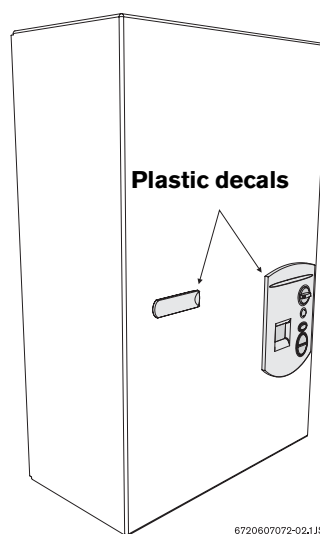

Fig. 3 Remove front cover
- Plastic decal shields for covering front cover screws and control panel, installer should affix these decals to the front of the unit after installation is complete. See Fig. 3
- Loosen the two Philips head screws located on front panel (beneath plastic decal shields if they are already attached, see Fig. 3)